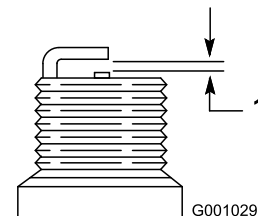

Figure 45
4. Set the gap between the electrodes on the spark plug at 0.030 inch (0.76 mm) (Figure 45).